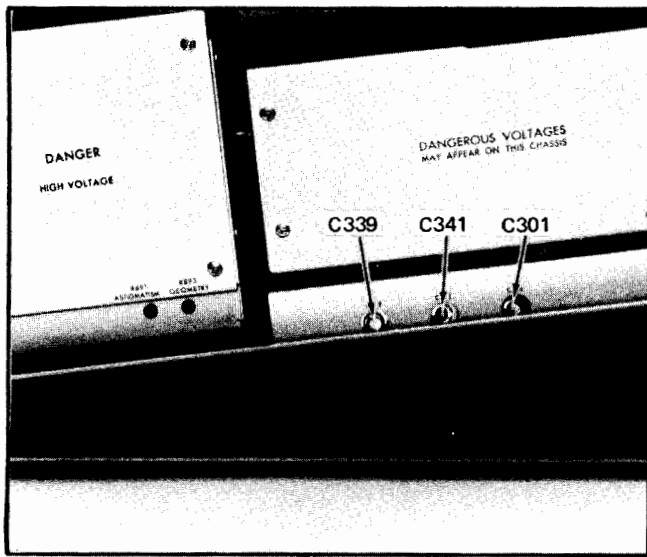

Fig. 5-10. Location of adjustments in steps 32 and 33.
d. ADJUST—C301, LOOPING BALANCE ADJUSTMENT (see Fig. 5-10), and front panel LOOPING COMPENSATION control for minimum vertical width.
g. ADJUST—C339, 350 V and 1500 V LOOPING COMPENSATION adjustment (see Fig. 5-10) for minimum vertical width.
k. ADJUST—C341, H.F. NOISE REJECTION adjustment (see Fig. 5-10), for minimum deviation of line. Typical setting of C341 is almost fully counterclockwise. Adjust front panel LOOPING COMPENSATION control if necessary to get a display. High voltage will appear on this capacitor. Use a non-conducting tool to make the adjustment.
i. Remove the guard box protective cover by loosening the four screws shown in Fig. 5-10 immediately above C339, C341, and C301.